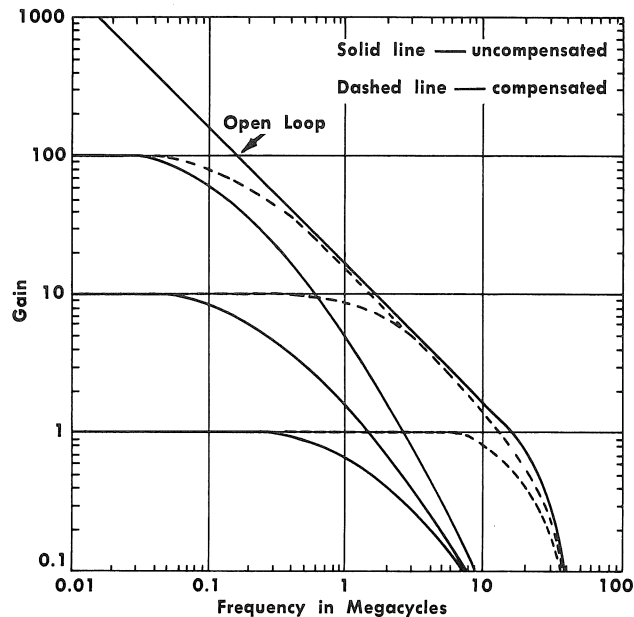

Fig. 2. Typical frequency response of a Type O with and without compensation.
**Frequency Response**—See Fig. 2.